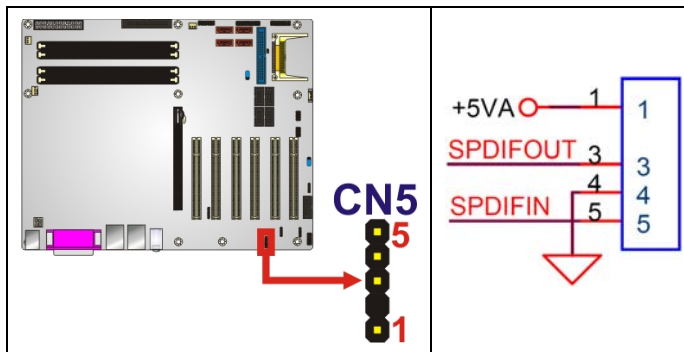

Figure 4-22: SPDIF Connector Pinout Locations
- CN Location:** See Figure 4-22